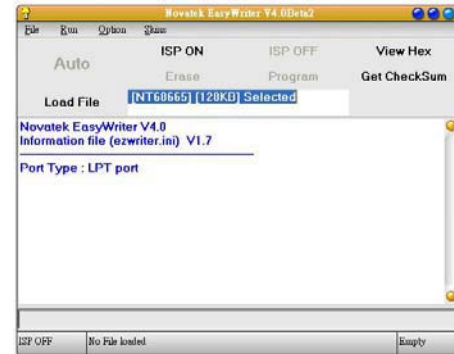

Fig.5
1. Double click the Writer.exe then appears window as shown in Fig.5.